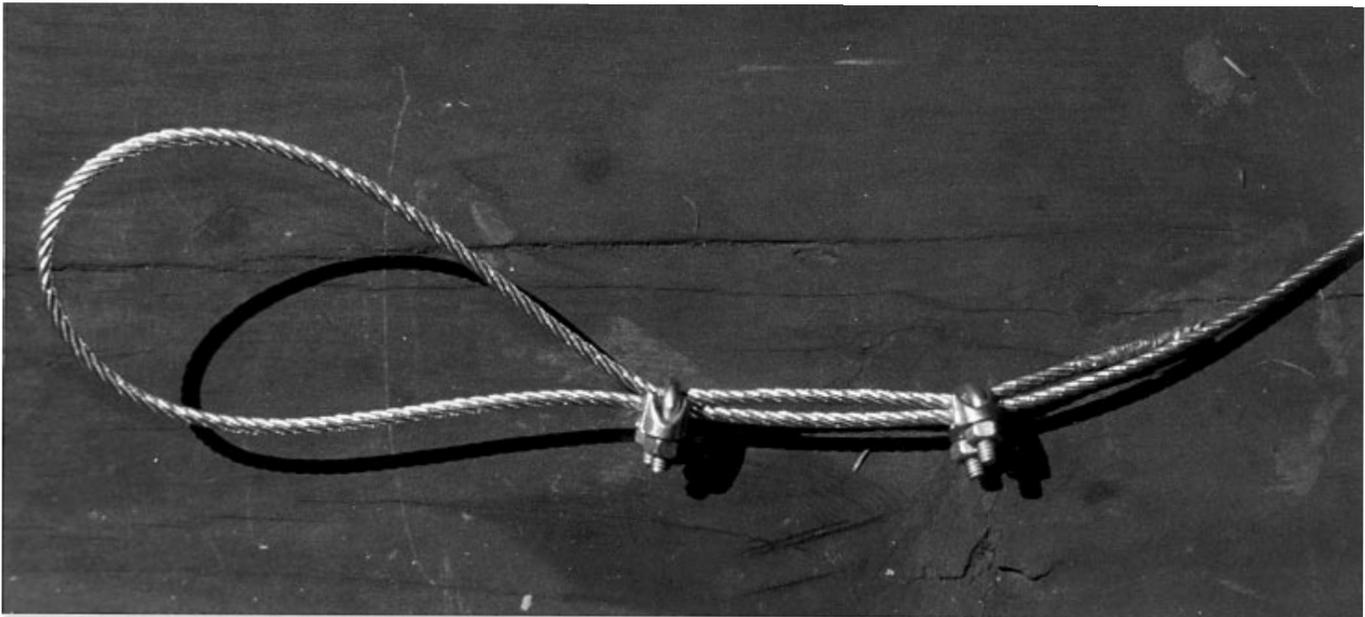

Figure 2.—Wire rope with clamps properly attached.
**Cable:** Flexible steel cable, or wire rope (3/16-inch diameter, with a number of fine strands), is used in one method as a support cable between two trees. It is strong and will not stretch. Loops in the ends of the cable and slide arrester blocks need to be installed before heading for the field. Use double- and single-strand “micro-press” sleeves to create the loops and to serve as slide arresters if you are having loops and slide arresters made up for you. If you are making them yourself, regular bolt-on cable clamps work fine. Fasten the clamps as shown in Figure 2. Clamps will not hold on vinyl-covered wire rope.